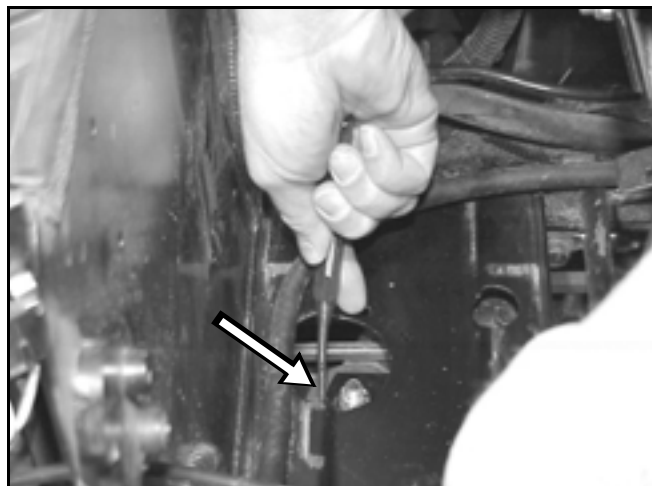

Figure 22
5. Using a punch, turn the eccentric clockwise until zero clearance is obtained between the end of the steering shaft gear and the steering sector (Figure 22).